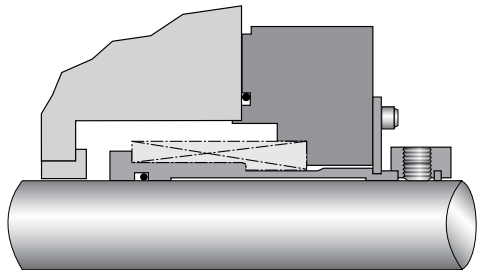

Figure 6
6.1 Installation of Cartridge Type Seal with Setting Plates. See Figure 6.